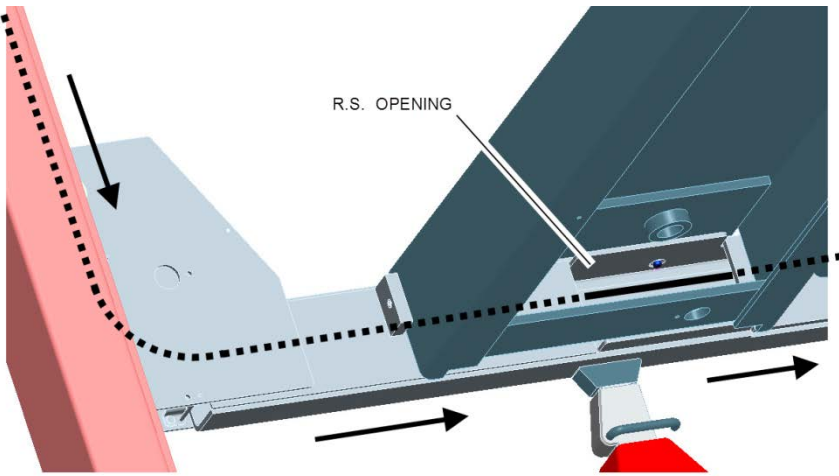
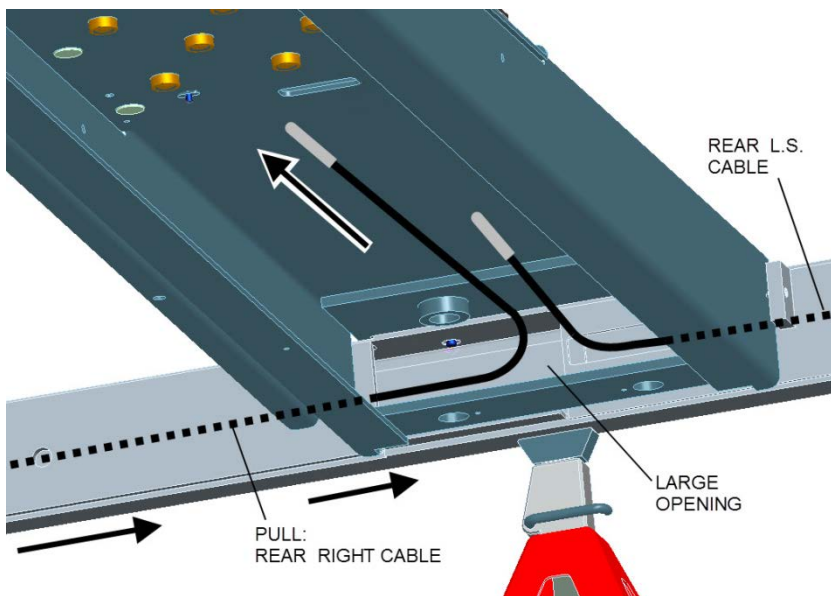

Figure 50
Figure 51
- Continue routing the cable, non-threaded sleeve first, through the rear cross-member. Pull sleeve end of the cable through the rear cross-member. Do not pull cable through the right side opening (**Fig.50**). Continue pulling to the **LARGE** opening under the rear of the left side runway (**Fig.51**).